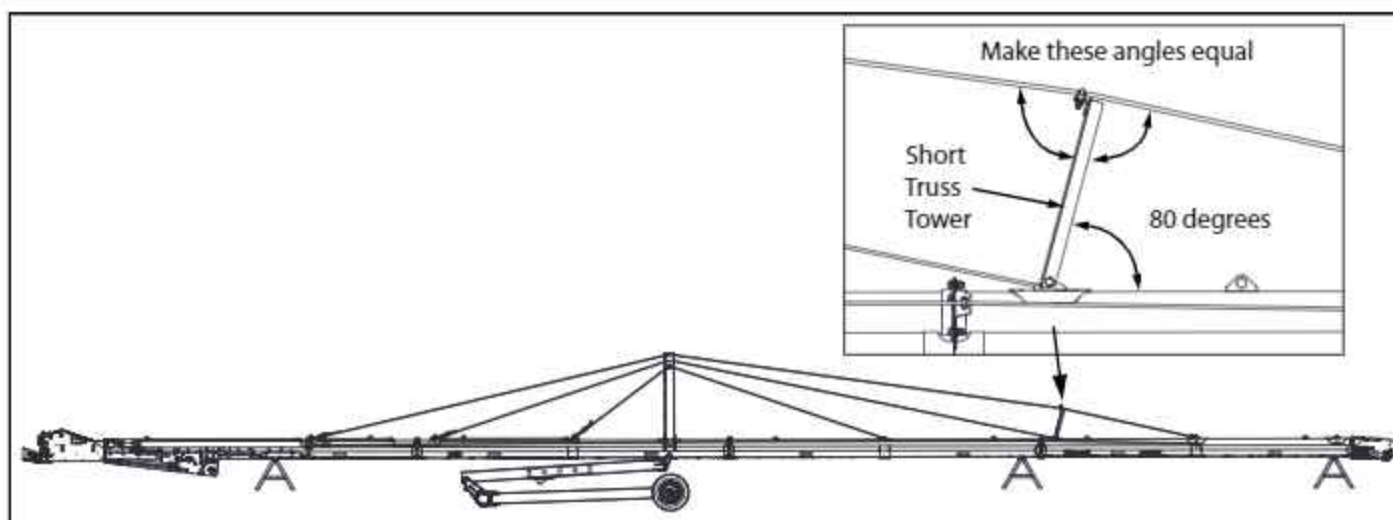

FIG. 3-32. Lifting the Discharge End of the Tube
2. Wrap a sling around the upper tube where shown in Fig. 3-32, leaving the intake end on the stand. **CAREFULLY AND VERY SLOWLY** raise the discharge end of the conveyor to the dimension shown in Fig. 3-32. This will put a bow in the conveyor tube. Be extremely careful not to kink the tube.
3. While wearing gloves, pull the upper truss cables as tight as possible and tighten the cable clamps. **Torque the cable clamps to 45 ft.lbs.** Tension the top long cable by adjusting the turnbuckle. Tighten the other top cables until they are tight. When the cables are adequately tight, tighten down each of the clamps on the Main Truss Tower. Re-torque the clamps on the turnbuckles. Lower the discharge end of the tube. Measure the distance between the tube and the stand. It should be very close to dimension 'B' in Fig. 3-32.